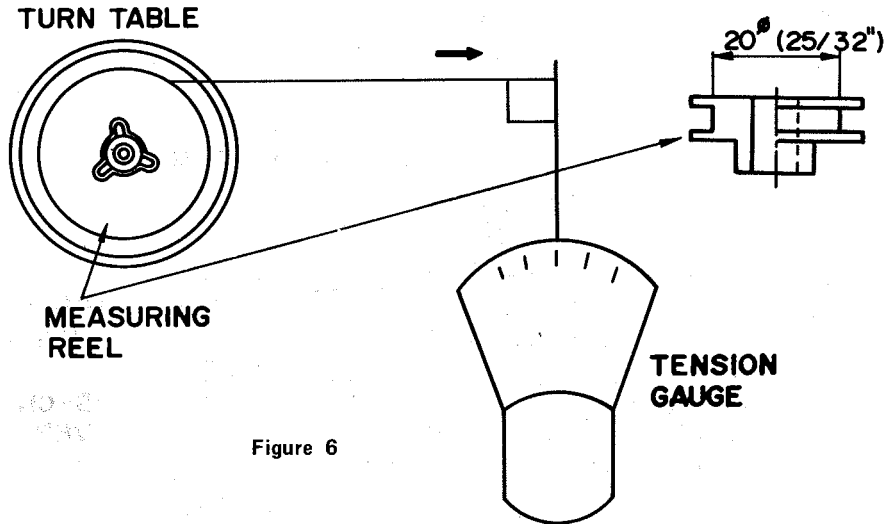

Figure 6
**TORQUE CHECK** (Refer to Figure 6)